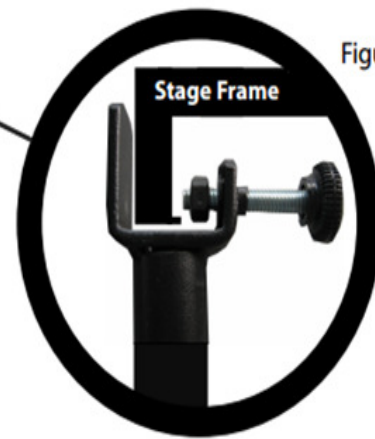

Figure 2B
Step 3: Use the knobs to secure the connector brackets to the stage (see figure 2B).